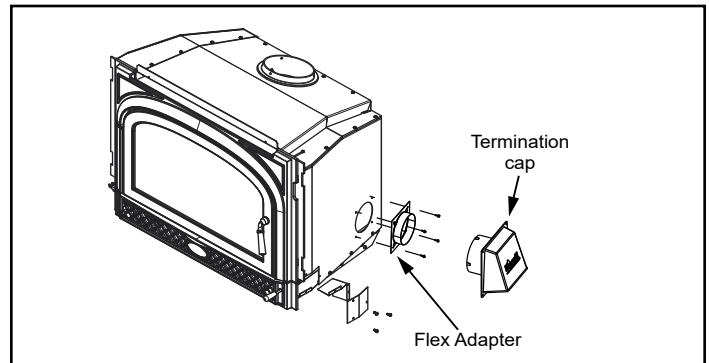

Figure 5.2
2. Remove screws holding outer cover in place . Place outside air plate in channel as shown (outside air plate is located in component pack). re-install outer cover. (Figure 5.2)